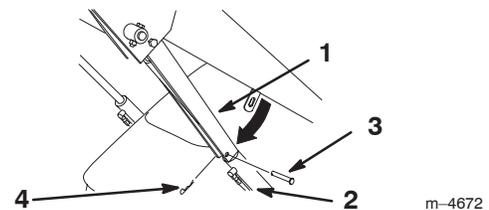

Figure 12
4. Remove the hairpin cotter and clevis pin securing the cylinder lock to the loader arm (Fig. 12)
5. Lower the cylinder lock over the cylinder rod and secure it with the clevis pin and hairpin cotter (Fig. 12).
5. Rotate the cylinder lock up to the loader arm and secure it with the clevis pin and hairpin cotter (Fig. 12).